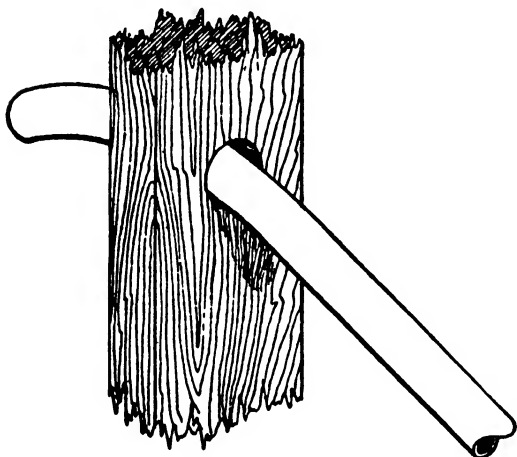

FIG. 52
3. A very effective and convenient method is to fasten up a heavy board or plank and bore a hole in it about  $\frac{1}{4}$ " larger in diameter than the pipe. Slip the pipe thru the hole and bend slightly. Shift the pipe forward or backward as the bending is continued in order to secure the desired curve. Fig. 52. Fig. 53 shows another pipe bending device.